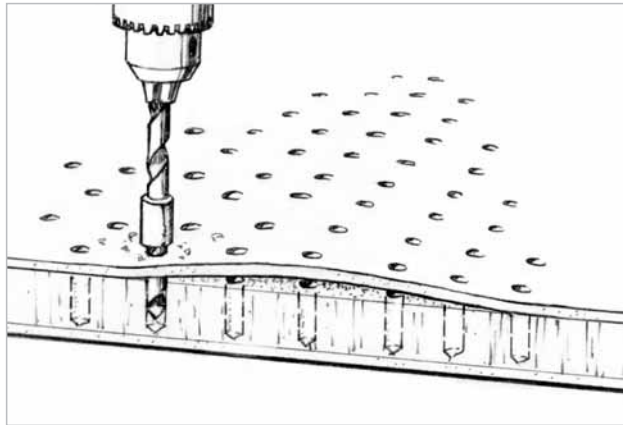

Figure 5-2 Drill a pattern of holes, 1" (25mm) apart over the area of delamination, to allow the core material to dry out.
1. Drill $\frac{3}{16}$ "– $\frac{7}{32}$ " (5mm)-diameter holes at 1" (2.5cm) intervals, creating a pegboard-like pattern that extends several inches beyond the delaminated area (*Figure 5-2*). The holes should penetrate the fiberglass skin and the core without drilling into the opposite skin. Use a drill depth control device to prevent drilling entirely through the panel.